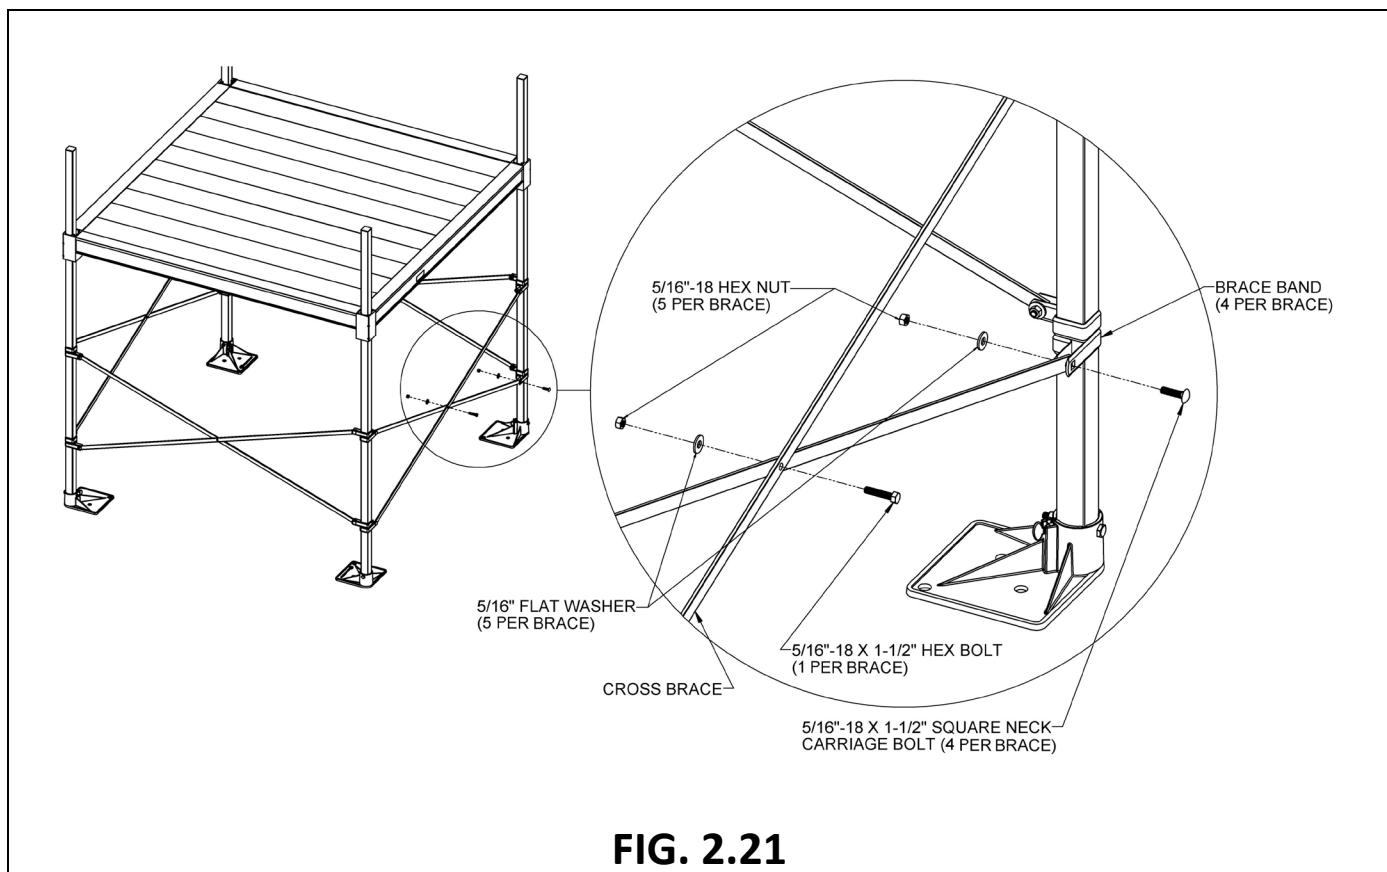

FIG. 2.21
- 2.8.4. Install four bands on each leg with the part containing bolt holes at 90 degrees from each other and in line with the outer edge of the foot (FIG. 2.21).
- 2.8.6. Install the cross brace by installing the 5/16"-18 x 1-1/2" hex bolt, 5/16"-18 hex nut, and 5/16" flat washer through the center hole in the braces. Tighten enough to hold the brace together but still allow it to pivot around the bolt (FIG. 2.21).
- 2.8.9. Install the assembled cross brace between the legs of the brace bands using the four 5/16"-18 x 1-1/2" long square neck carriage bolts, 5/16"-18 hex nuts, and 5/16" washers provided (FIG. 2.21).